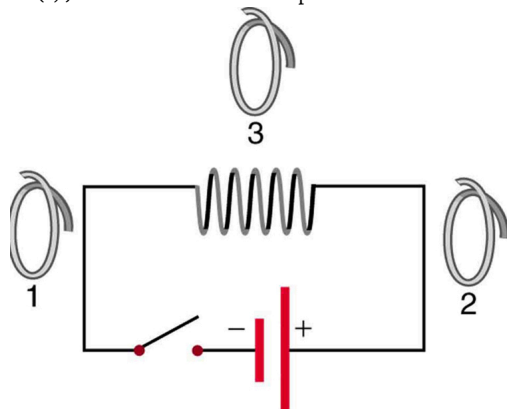

Figure 23.58
5. Referring to Figure 23.58, what are the directions of the currents in coils 1, 2, and 3 (assume that the coils are lying in the plane of the circuit): (a) When the switch is first closed? (b) When the switch has been closed for a long time? (c) Just after the switch is opened?